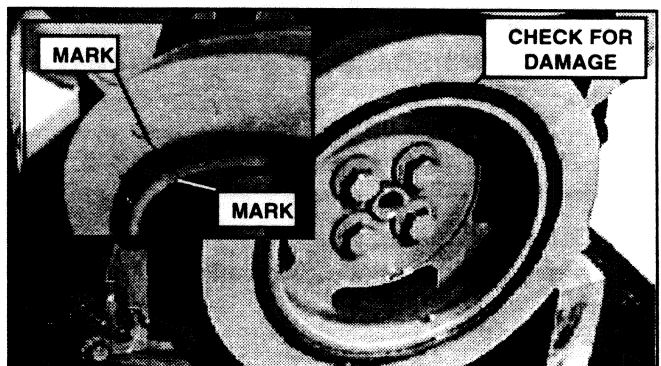

FIGURE 4.75
1. Inspect Vibration Damper for damage such as pieces of the rubber missing. Also, check for movement of the damper hub from the inertia member. See Figure 4.75.